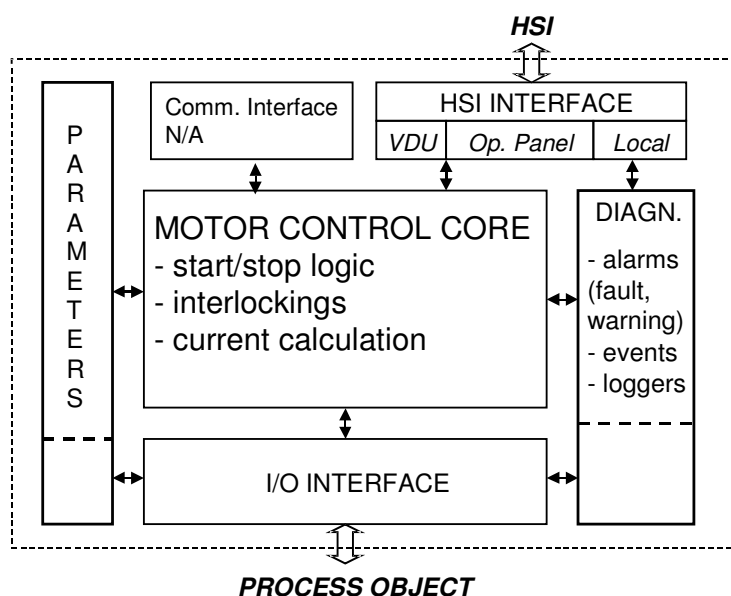

Figure 2-1. The Structure of the Functional Unit
- A section for operator functions, which consists of presentation and order functions. Data and parameters from the process are presented on an OperateIT Operator Station. The keyboard of the OperateIT Operator Station is used by the operator to enter commands which control the operation of the functional unit. The response to the operator's intervention is shown on the display screen of the OperateIT Operator Station. The application work for this part is normally limited to the arrangement of the display. Figure 2.1 shows the structure of the functional unit.